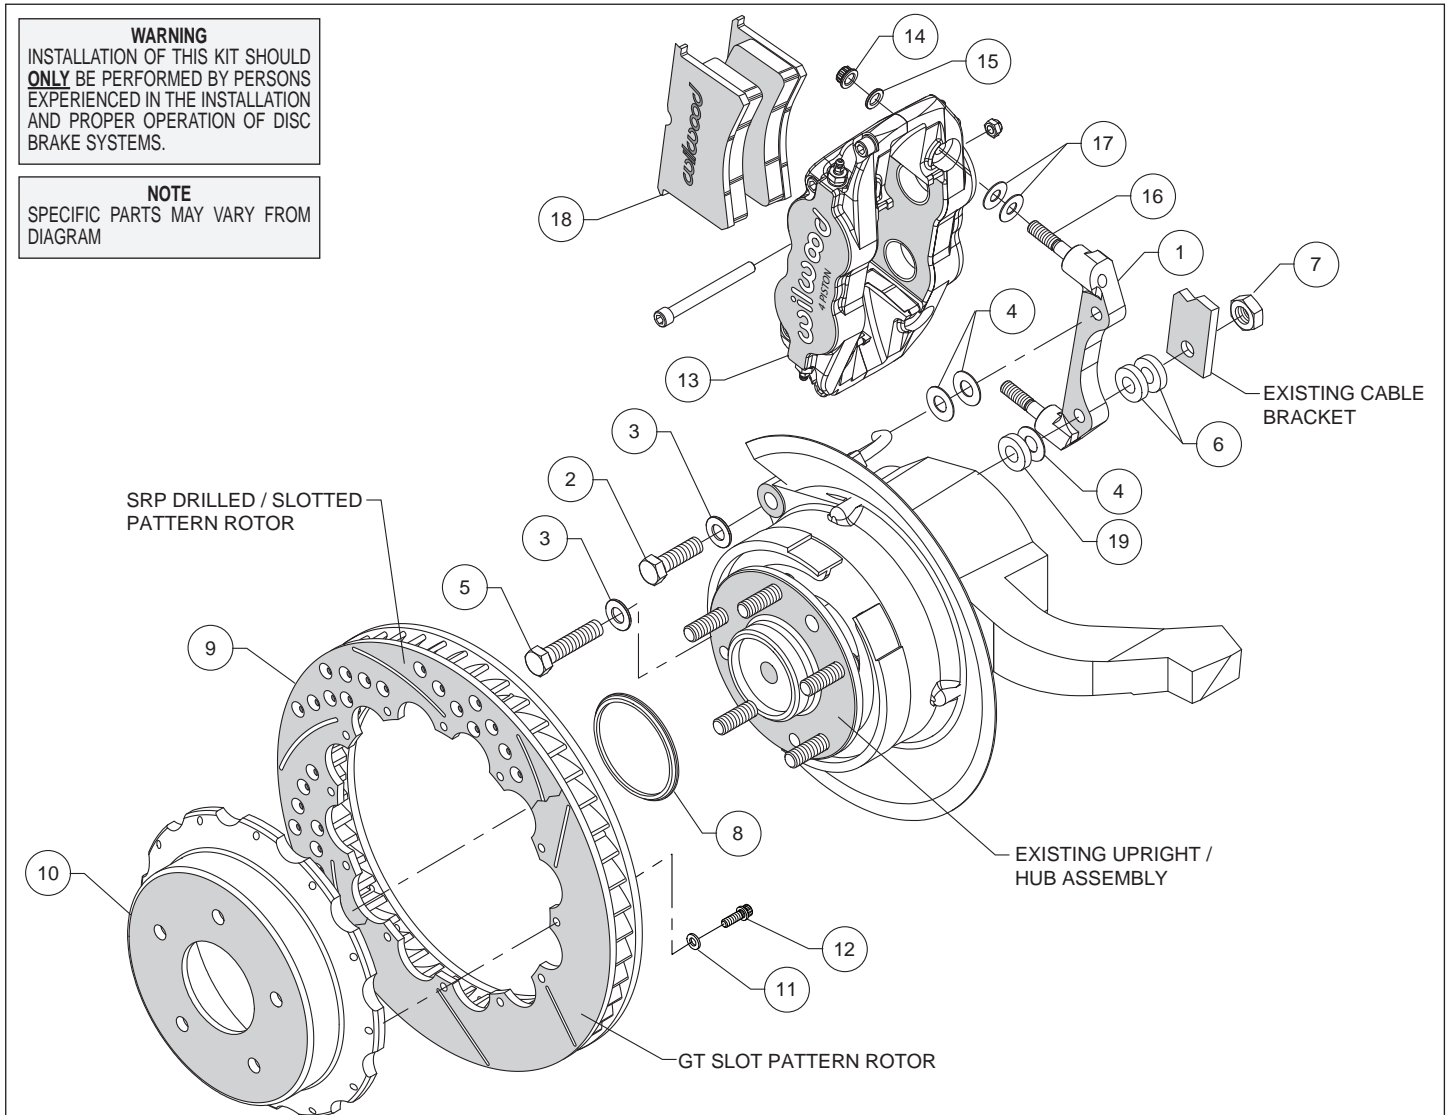
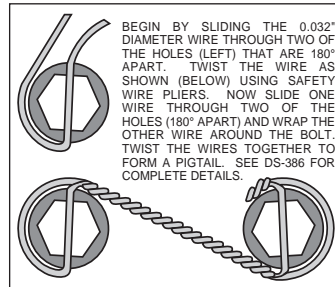

Figure 1. Typical Installation Configuration
Figure 3. Safety Wire Diagram
Assembly Instructions (numbers in parenthesis refer to the parts list and Figure 1 on the preceding pages):
•The caliper mount bracket (1) should initially be installed with clean, dry threads on the mounting bolts. Orient the bracket as shown in Figure 1, and install using bolt (2), washer (3) and two shims (4) for the top mounting hole. Secure the bottom of the bracket using bolt (5), washer (3), .145 thick spacer (19), and one shim (4) as shown in Figure 1 and Photo 1. Temporarily tighten the mounting bolts. **NOTE:** *The bracket must fit squarely against the mount bosses on the upright.* Inspect for interference from casting irregularities, machining ridges, burrs, etc. Later, after the caliper alignment has been checked, the mount bolts will be secured using red *Loctite*[®] 271.
•Orient the rotor (9) and the hat (10) as shown in Figure 1 and Photo 2. Attach rotor to hat using bolts (12) and washers (11). Using an alternating sequence, apply red *Loctite*[®] 271 to the threads, and torque to 140 **in-lbs**. For an added measure of security, the bolts may be safety wired using standard 0.032 inch diameter stainless steel safety wire as shown in Figure 3.
•Slide the rotor registration adapter (8) onto the axle register on the axle hub with the smaller O.D. facing outward, Photo 3. Slide the hat/rotor assembly onto the axle hub. **NOTE:** *The hat must fit flush against the axle hub flange or excessive rotor run out may result.* Install three lug nuts (finger tight) to keep the hat/rotor assembly in place while continuing with the installation.
•Lubricate the caliper mounting studs (16) with lightweight oil. Initially place two .035" thick shims (17) on each stud as shown in Figure 1 and Photo 4. Mount the caliper (13) onto the bracket (1) using lock nuts (14) and washers (15), Figure 1 and Photo 5. Temporarily tighten the lock nuts and view the rotor through the top opening of the caliper. The rotor should be centered in the caliper, Photo 6. If not, adjust by adding or subtracting shims (4) between the bracket and the upright. Once the caliper alignment is correct, remove the bracket mounting bolts one at a time, apply red *Loctite*[®] 271 to the threads, and torque to 60 ft-lb.